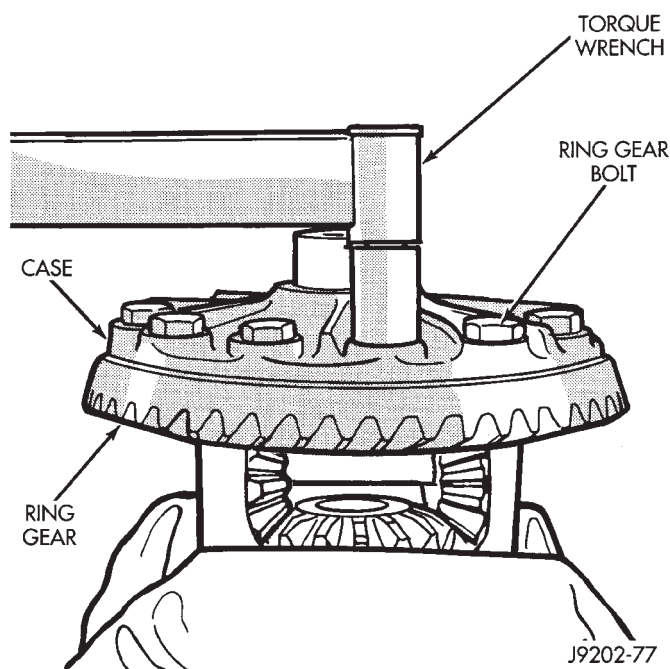

Fig. 26 Ring Gear Bolt Installation
- (1) Invert the differential case and start two ring gear bolts. This will provide case-to-ring gear bolt hole alignment.
- (2) Invert the differential case in the vise.
- (3) Install new ring gear bolts and alternately tighten to 95–122 N·m (70–90 ft. lbs.) torque (Fig. 26).
- (4) Install differential in axle housing and verify gear mesh and contact pattern.